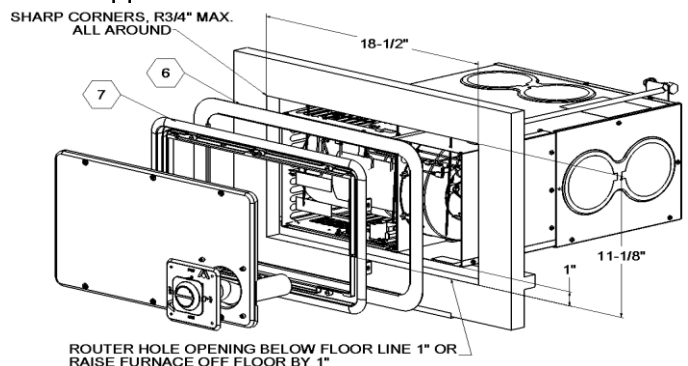

Figure 2
2. Install wood shims or blocking between bezel tabs and wall cutout setting shim 5/16" from face of wall. Flush door mounting tabs should not have more than 1/16" gap or bezel could distort when screwed in place (See Fig 2).
4. Caulk trim ring on both sides of part (6).
5. Place trim ring on back of bezel with flanges towards inside of coach (7).
7. Pull furnace forward until flush with bezel inside ring and put 6 screws thru bezel into furnace casing (Fig 2). For more detail information see installation manual supplied with furnace.